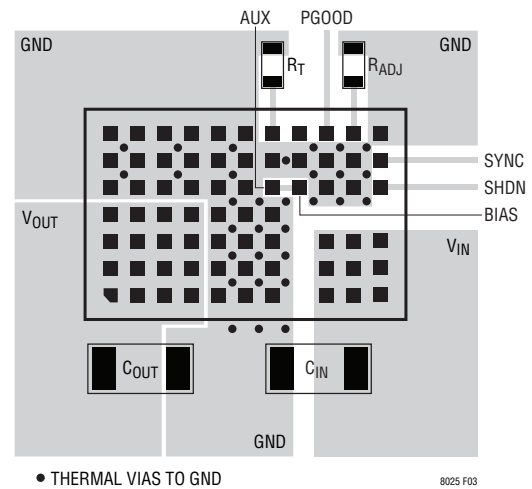

Figure 3. Layout Showing Suggested External Components, GND Plane and Thermal ViAs.
operation with a haphazard or poor layout. See Figure 3 for a suggested layout. Ensure that the grounding and heatsinking are acceptable.
6. For good heatsinking, use vias to connect the GND copper area to the board's internal ground planes. Liberally distribute these GND vias to provide both a good ground connection and thermal path to the internal planes of the printed circuit board. Pay attention to the location and density of the thermal vias in Figure 3. The LTM8025 can benefit from the heat-sinking afforded by vias that connect to internal GND planes at these locations, due to their proximity to internal power handling components. The optimum number of thermal vias depends upon the printed circuit board design. For example, a board might use very small via holes. It should employ more thermal vias than a board that uses larger holes.